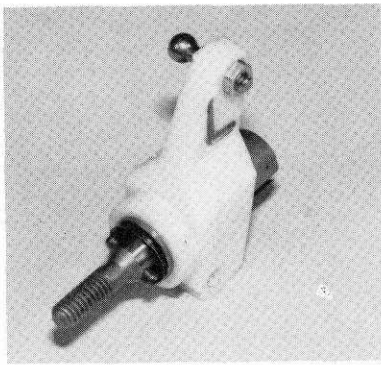

Fig. 93
□ **Fig. 93** Install a #6273 steel ball end with the long threads and a #7260 plain nut, as shown. Do the right hand side, but make sure the ball is facing forward.